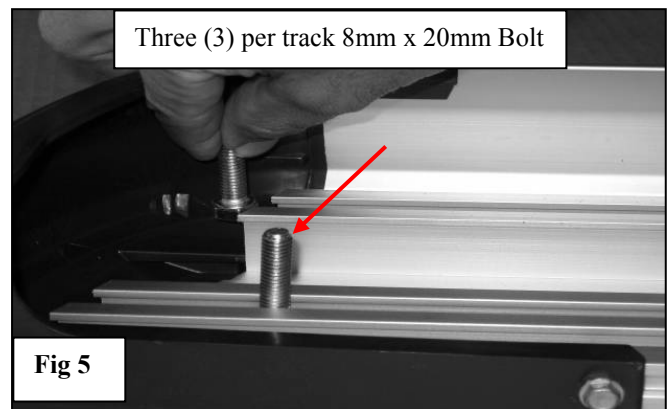

Fig 5
1. **IMPORTANT:** Position the Board on the brackets. Install (6) 8mm x 20mm hex bolts, three per track align with brackets Fig 5. Install 8mm serrated flange nuts.